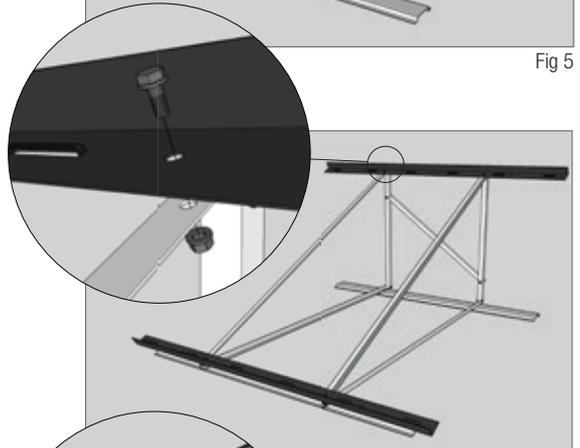

Fig 6
9. Fit the black collector rails across the top rails at both the upper and lower positions using the supplied M8 bolt, nut and washers (Fig 6). Note: Please ensure these are fitted with the bottom lip facing towards each other